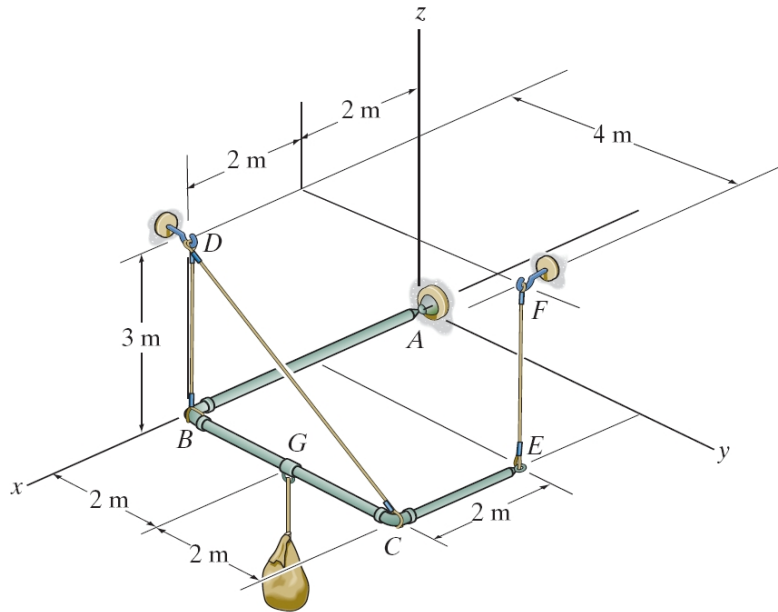

Figure Q2[a]
- Q2. [a]** If the load at G has a weight of 200 kN, as shown in Figure Q2[a], determine the x, y and z components of the reaction at the ball-and-socket joint A and the tension in each of the cables.